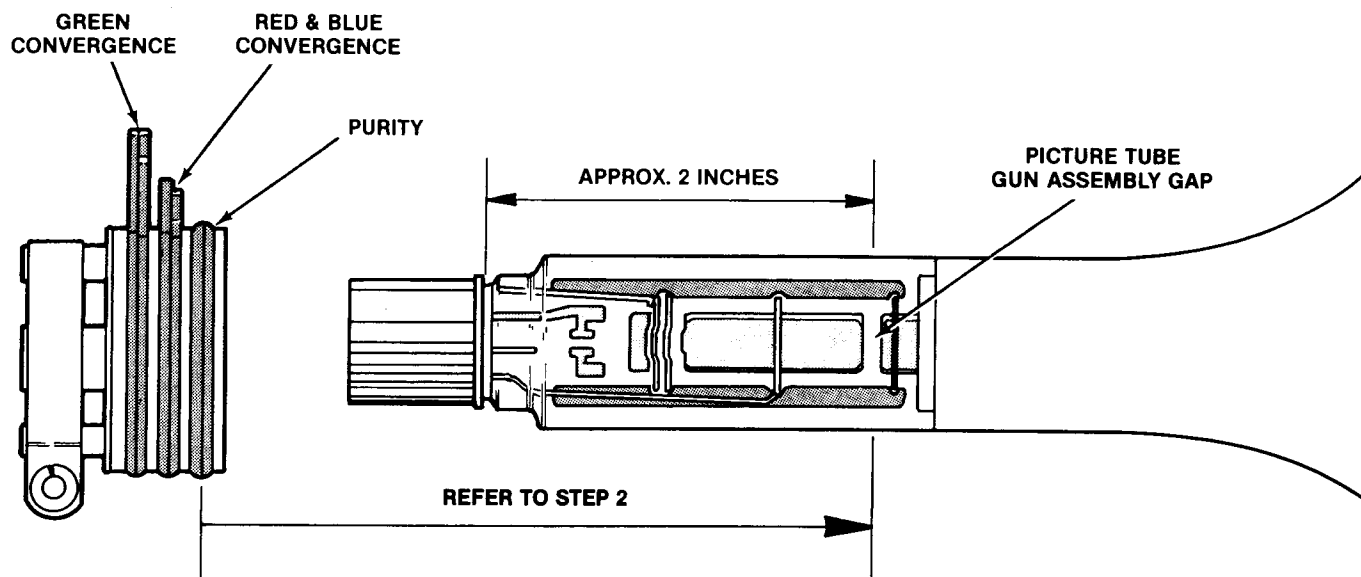

Figure 9 Purity and Convergence Adjustments
2. Position the convergence-magnet assembly so that the purity rings shown in Figure 9 are positioned directly over the gap in the cathode-ray tube gun assembly. This is about two inches forward from the start of the neck glass.
8. Adjust the purity rings of the magnet assembly shown in Figure 9 to center the green band horizontally on the face of the CRT.
- b. Adjust the angle of the tabs of the red and blue convergence magnets to superimpose the red and blue vertical lines in the center of the screen area. This will produce magenta vertical lines at screen center. These magnets are shown in Figure 9.